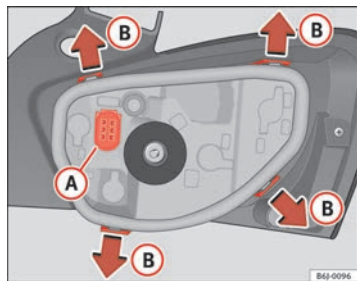

Fig. 147 Changing bulbs on tail lights
- Remove the bulb holder, separating it from the casing. To do this, press tabs (B) in the direction of the arrows ⇒ fig. 147.